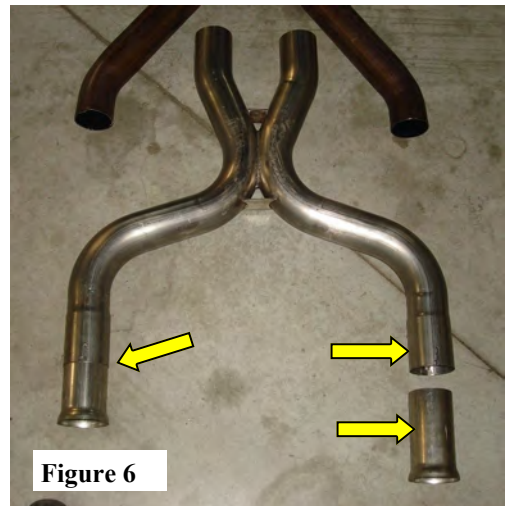

Figure 6
**MUSTANG GT ONLY:** Loosen and remove (2) factory ball clamps on catalytic converter pipes. Carefully remove factory H-pipe connection to these pipes. Install Flair Nipples using (2) factory ball clamps, tighten bolts 32-35 ft. lbs. (See Fig. 6)